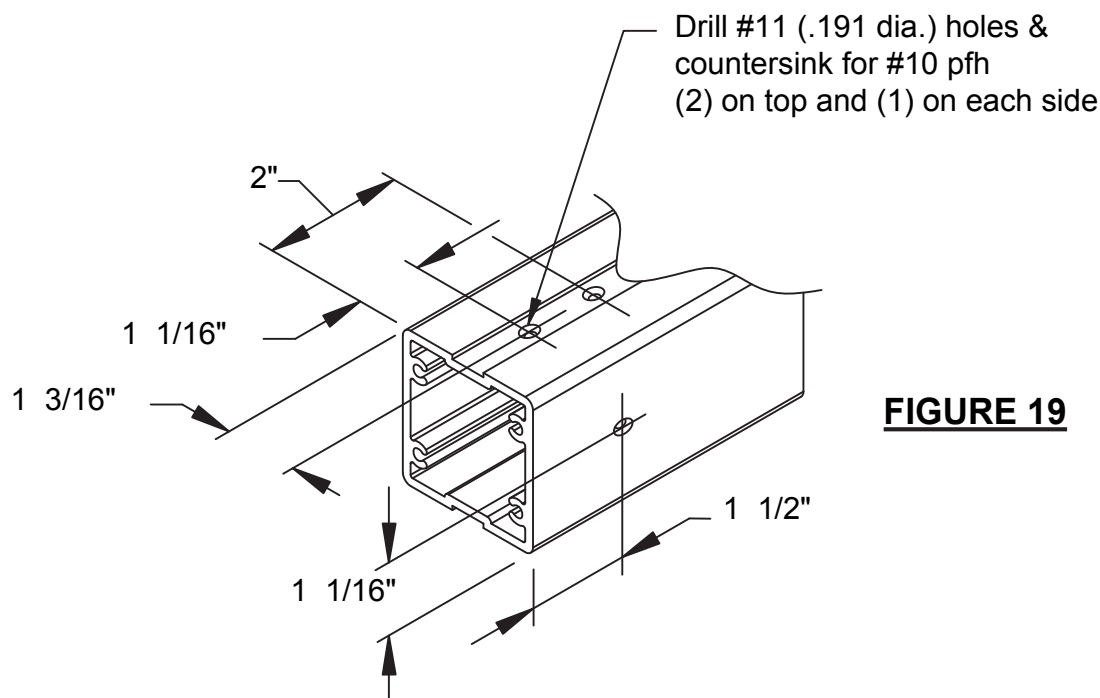

FIGURE 19
4.6) Drill (4) #11 (.191 dia.) holes and counter sink for #10 pfh in end of struts. See FIGURE 19. Install the SS-116 shelf strut onto the shear blocks and attach with (4) four FS-58 fasteners, two on top and one on either side. See FIGURE 20. Strut to be cut shelf depth minus 2 3/8" for SS-124 & SS125, and minus 5 1/8" for SS-119 & SS-123.